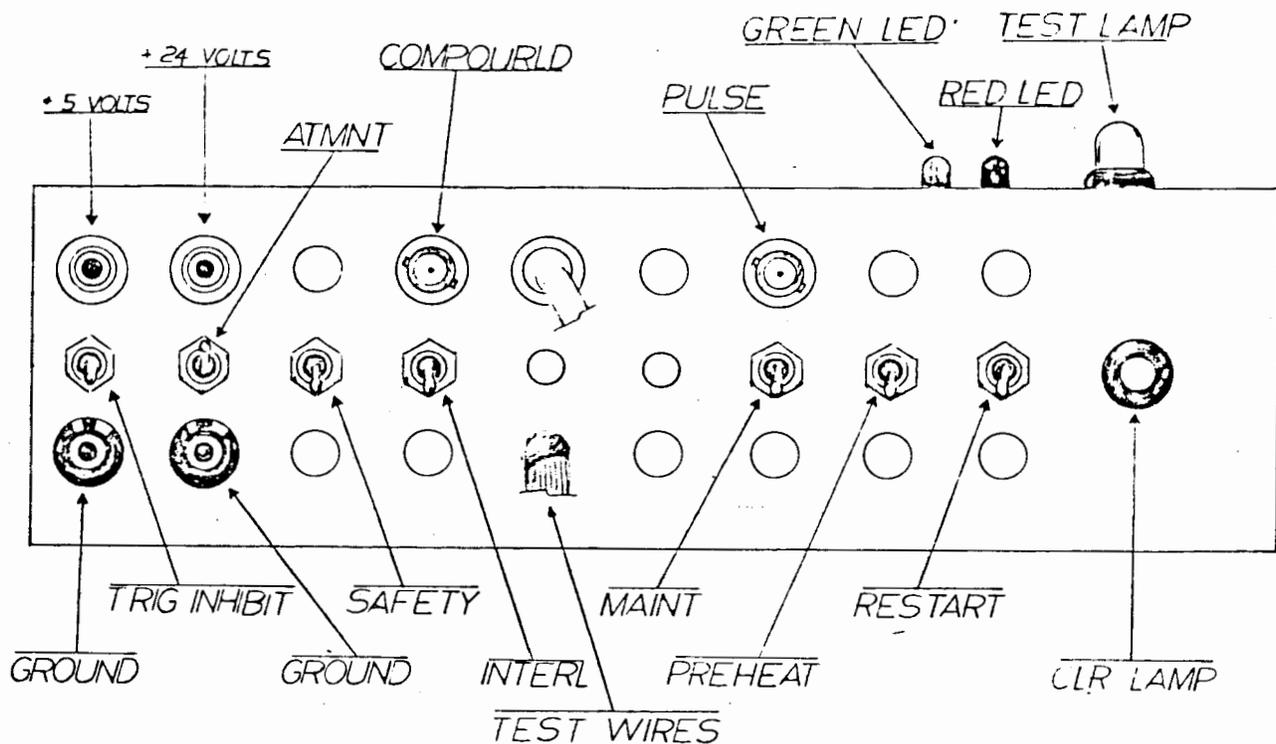

Figure A2 - Fault Control #1 Test Set Front Panel
- D. Set the DC voltages from dual power supply to 5v and 24v. Using the banana tip leads, connect the +24v to the red input jack below the 24v label on the front of the test set and connect the 24v return to the black input jack located below the +24v jack. Connect the +5v to the red input jack below the 5v label on the front of the test set and connect the 5v return to the black input jack located below the +5v input. (see Fig. A2 for a the location of the DC voltage inputs)
- E. Set all toggle switches on the front of the test set to the down position except the switch labeled 'ATMNT' which should be in the up position. (see Fig. A2 for the location of the switches)